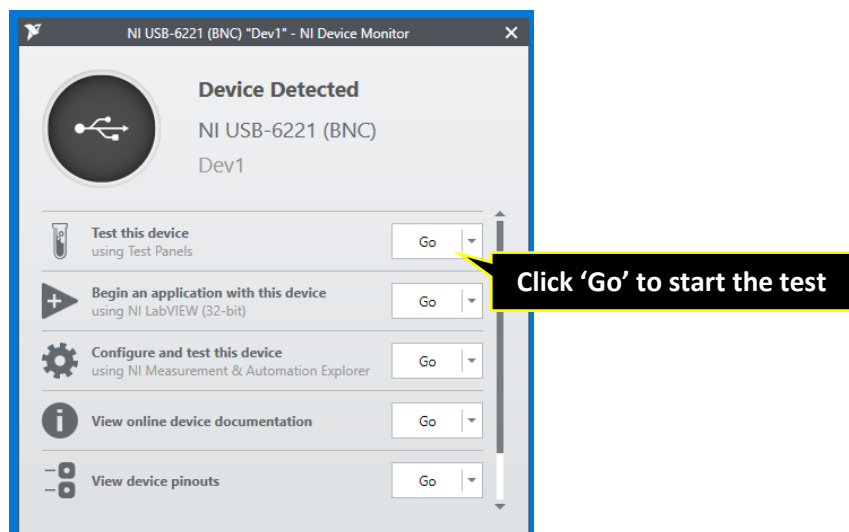

Fig. 4. A pop-up window on the PC Desktop showing the DAQ is detected
2. Test Analog Inputs of the detected NI-DAQ device when the Figure 4 is on the PC's desktop.